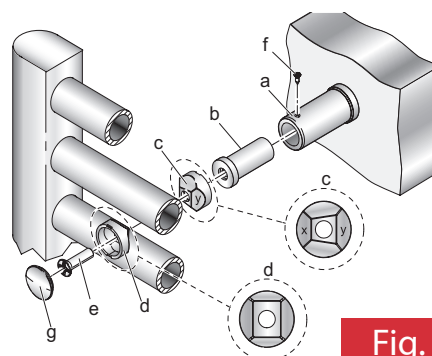

Fig. 3
4. Attach the inner wall bracket sleeves (b) to the towel rail with the clamping pieces (c & d) and screw (e) as shown in Fig. 3. Ensure the clamping pieces are aligned correctly as shown (x & y). The screw should be left loose enough to allow horizontal adjustment.